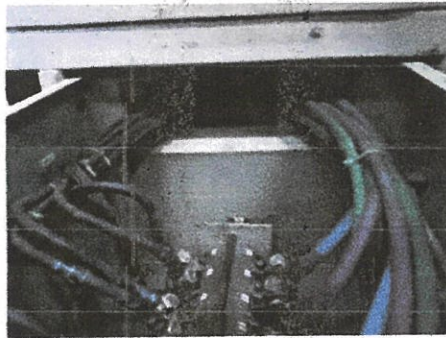
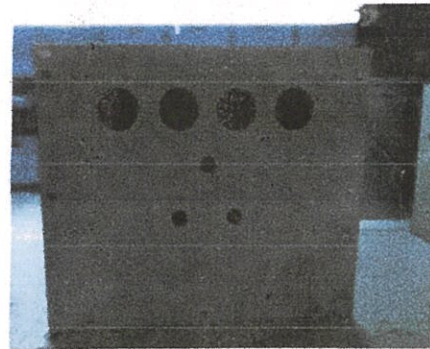

Fig.1: OLD D&ED
Fig.2: NEW D&ED
- a) In old design of Switch Board Cabinets, there is a rectangular slot (as shown in Fig. 1 below) for cable entry in D&ED (Disconnecting and Earthing device) and it is prone for rodent entry in D&ED of Switch Board Cabinets. In order to overcome this problem, RDSO has redesigned the D&ED with proper slots & end fittings (as shown in Fig.2 below) and the same has been implemented in all SBC of AC LHB coaches.